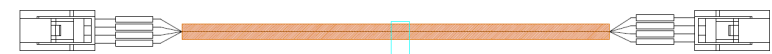

Figure-15 Battery module communication cable diagram (picture is for reference only)
1) Take out the matching battery module communication line as shown in Figure-15 and separate the communication line according to the battery module communication line label.